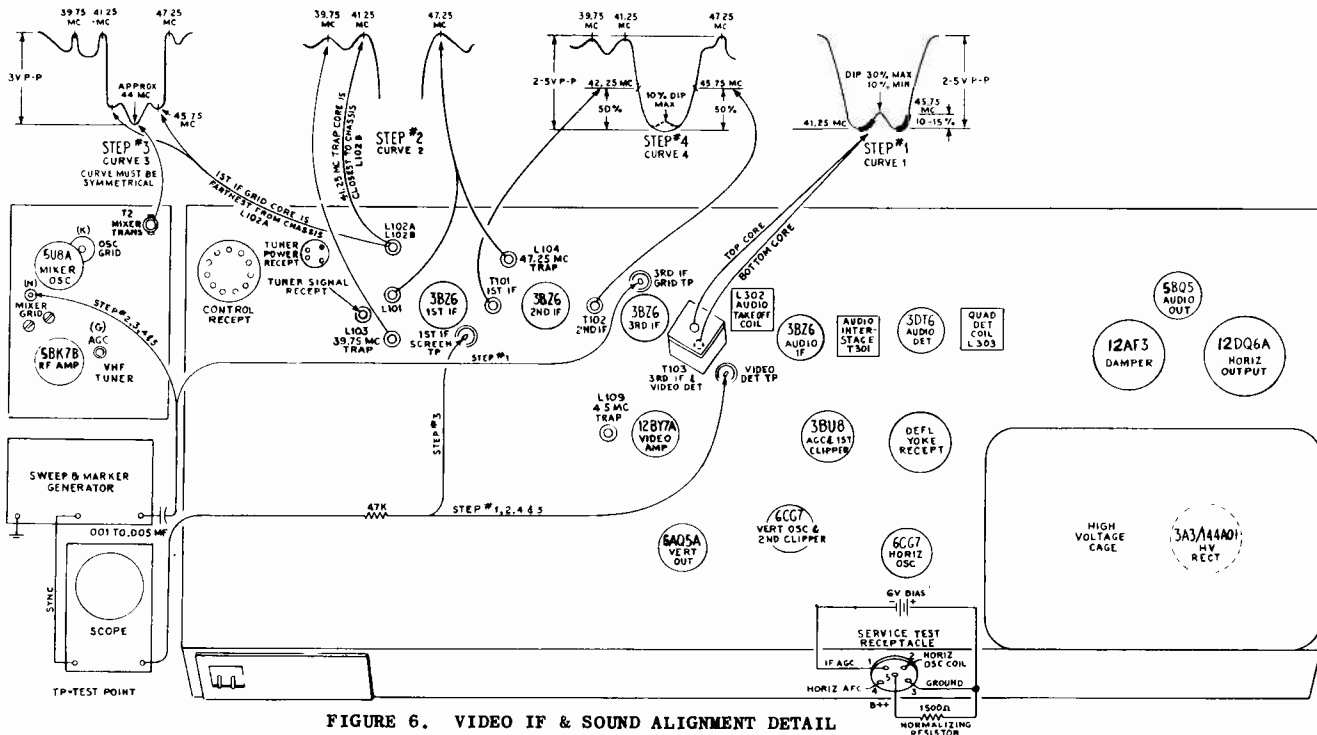

FIGURE 6. VIDEO IF & SOUND ALIGNMENT DETAIL
3. Refer to Video IF & Mixer Alignment Detail for coil and test point locations (Figure 6).